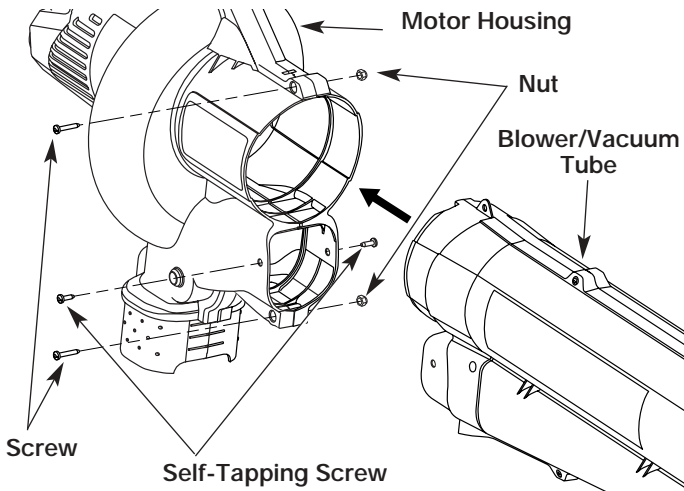

Fig. 1
2. Insert the blower/vacuum tube all the way into the opening on the motor housing until the holes in the tabs on the blower/vacuum tube align with the screw holes in the housing (Fig. 1).
3. Insert the 2 (two) 8-32 x 3/4" slotted T20 Torx screws into the right side of the motor housing and the 2 (two) nuts into the left side of the motor housing (Fig. 1).
5. Install the 2 (two) remaining self-tapping 8-16 x 3/4" slotted T20 Torx screws into the holes on either side of the housing (Fig. 1). Tighten until snug, but do not over-tighten.